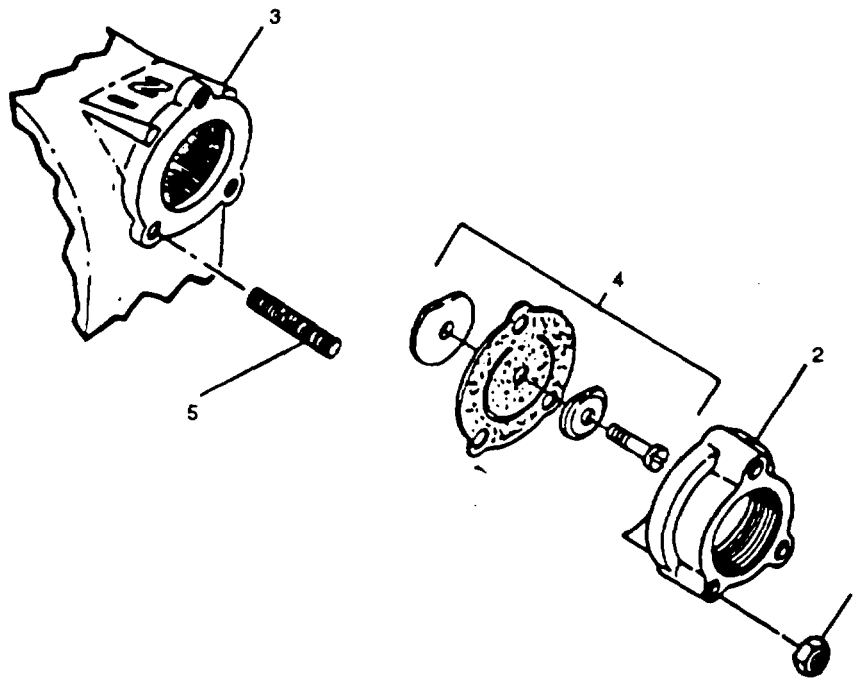

Figure 5-1. Inlet (Suction) Flange and Check Valve Assembly
a. **Removal.** (Refer to Figure 5-1)
(1) Remove three self-locking nuts (1) and separate inlet flange (2) from pump casing (3).
(2) Remove inlet flange (2) and check valve assembly (4).